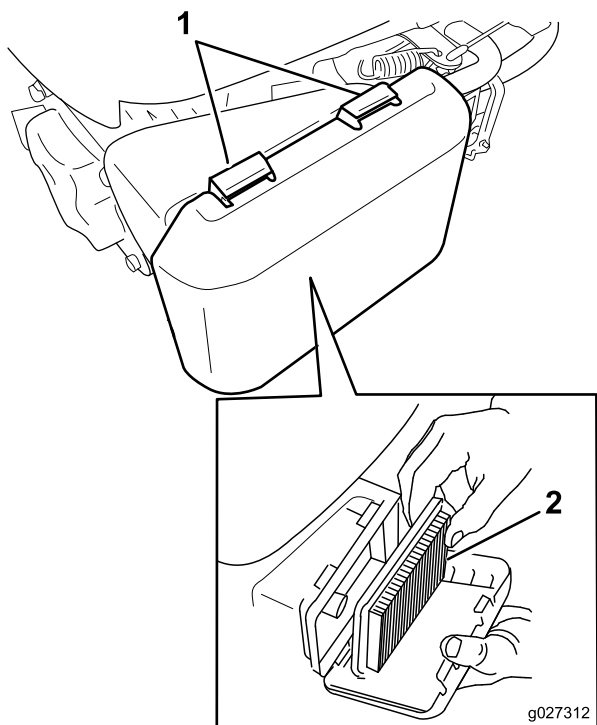

Figure 20
2. Press down on the latch tabs on top of the air-cleaner cover (Figure 20).